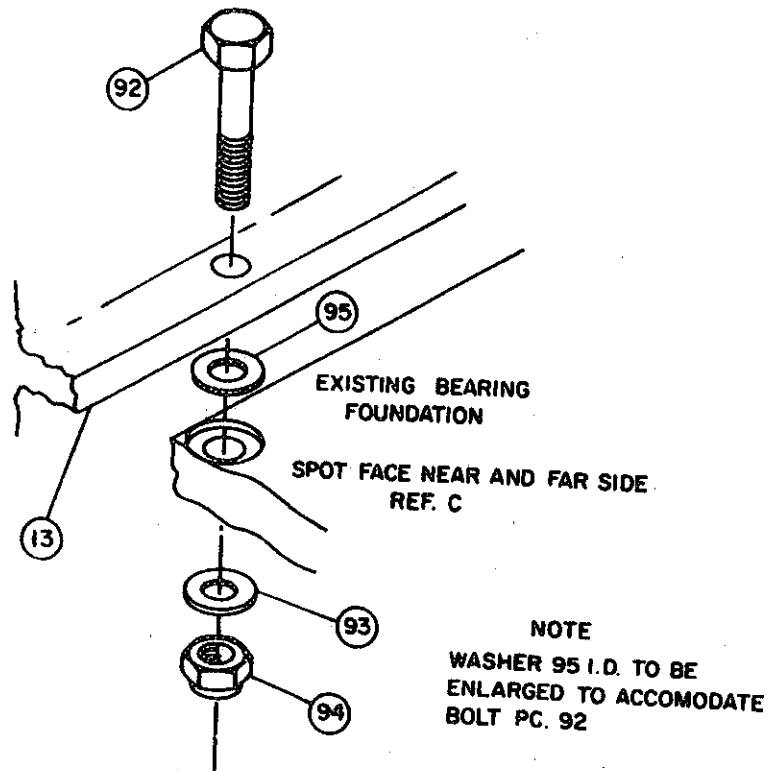

Figure 2-20. Bearing Frame to Ship's Foundation Bolting Hardware
- STEP 3** Drill twelve (12) holes 1-7/64 inch through bearing flange and foundation and secure with 1 inch diameter temporary bolts, nuts and washers. Space bolts one at each corner and two in the middle of the flange.
- STEP 4** (See Figure 2-20.) Remove the bearing frame and spot-face the top and bottom surfaces of the foundation plate for the bearing frame shims and bolts, to a diameter of 2-1/8 inches concentric to, and normal to, the hole (12 places). Remove minimum amount of metal to clean up surface only and chamfer square edges.